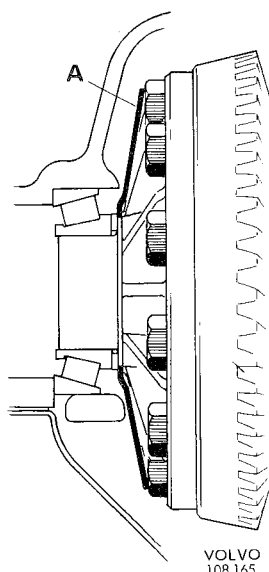

Fig. 4-160. Lock plate (A) for crown wheel bolts
4. Install the shims on the differential carrier and press on the bearings. Do not forget the lock plate for the crown wheel bolts, see Fig. 4-160.